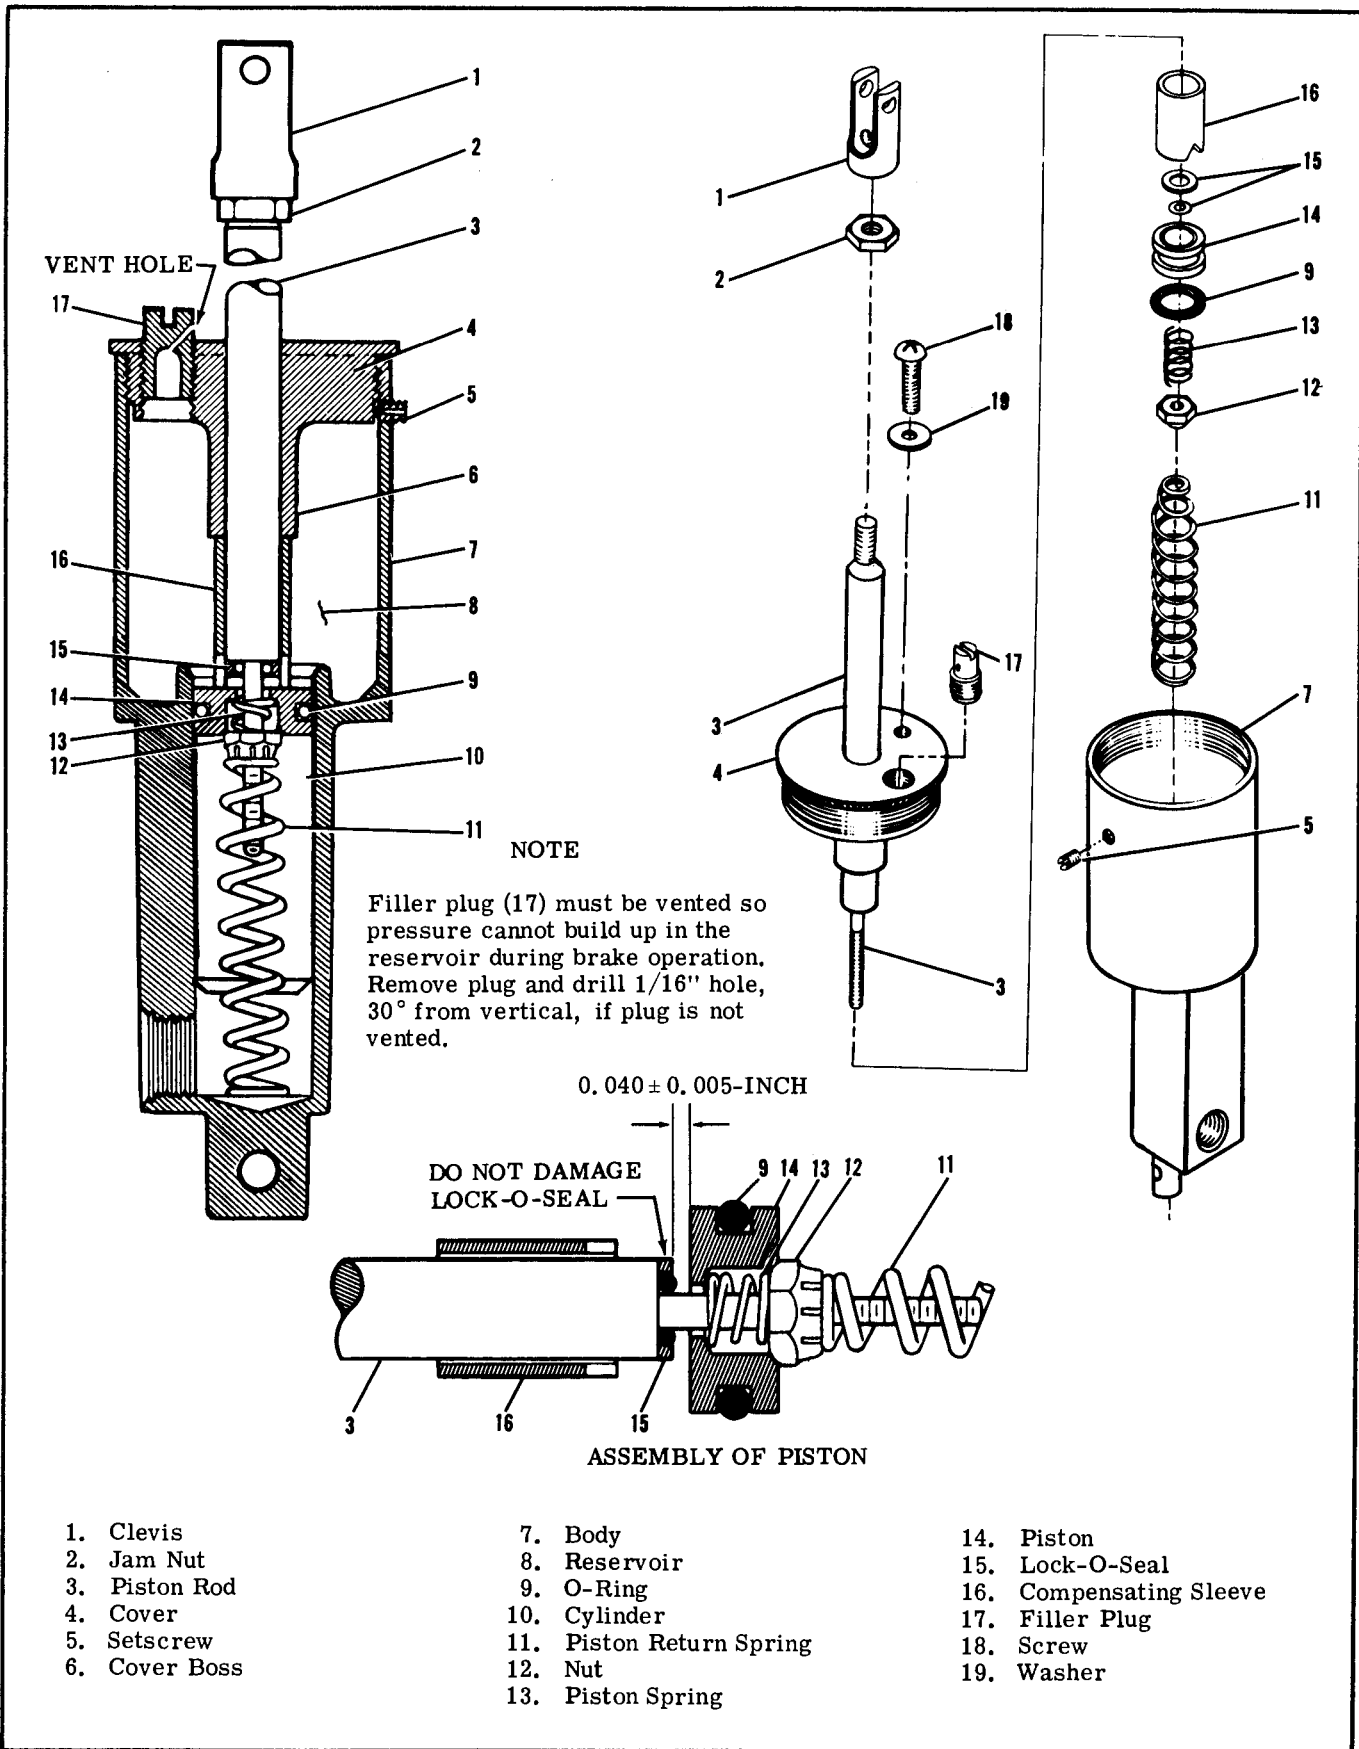

Figure 5-12. Brake Master Cylinder
5-61. BRAKE MASTER CYLINDER DISASSEMBLY. (Refer to figure 5-12.)
- a. Unscrew clevis (1) and jamb nut (2).
- b. Remove screw (18) and washer (19).
- c. Remove filler plug (17) and setscrew (5).
- d. Unscrew cover (4) and remove up over piston rod (3).
- e. Remove piston rod (3) and compensating sleeve (16).
- f. Slide sleeve (16) up over rod (3).
- g. Unscrew nut (12) from threads of piston rod (3).
- h. Remove spring (13) and O-ring (9) from piston (14).
- i. Remove Lock-O-Seal (15).
5-62. BRAKE MASTER CYLINDER INSPECTION AND REPAIR. (Refer to figure 5-12.) Repair is limited to installation of new parts, cleaning and adjusting. (Refer to reassembly paragraph for adjustment.) Use clean hydraulic fluid (MIL-H-5606) as a lubricant during reassembly of the cylinders. Inspect Lock-O-Seal (Parker Seal Co. P/N 800-001-6) and replace if damaged. Replace all O-rings. Filler plug (17) must be vented so pressure cannot build up in the reservoir during brake operation. Remove plug and drill 1/16-inch hole, 30° from vertical, if plug is not vented.
5-63. BRAKE MASTER CYLINDER REASSEMBLY. (Refer to figure 5-12.)